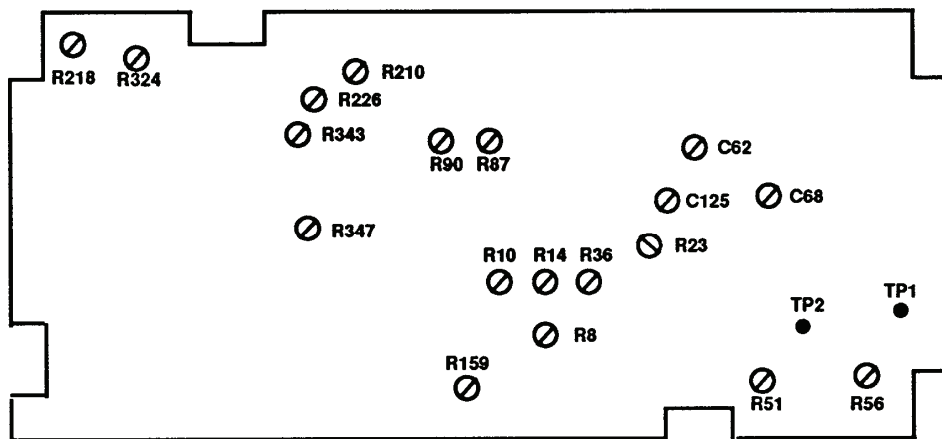

Figure 2. Test instrument - bottom view.
- (1) Adjust R36 (fig. 2) until oscilloscope indicates a duty cycle between 49.5% and 50.5% (R).
- (2) Adjust R23 (fig. 2) until oscilloscope indicates a duty cycle between 45% and 55% (R).
(7) Adjust **TI AMPLITUDE** control fully ccw and disconnect audio analyzer.
b. Adjustments. Adjust R87 and R90 (fig. 2) for minimum distortion, less than 0.5% as indicated on audio analyzer (R).
¹Set frequency dial to .02 and adjust R8 (fig. 2) for 200 Hz on frequency counter.
²Connect multimeter between TP1 and TP2 ground (fig. 2). Adjust R56 (fig. 2) for 0 ±1 mV dc on multimeter (R).
(5) Set up frequency counter to measure period (50 Ω).
(6) Set TI **FREQ/MULT(Hz)** to switch settings and frequency dial position for each row in table 19. If measured period using frequency counter does not indicate within limits, perform **b** (2) below.